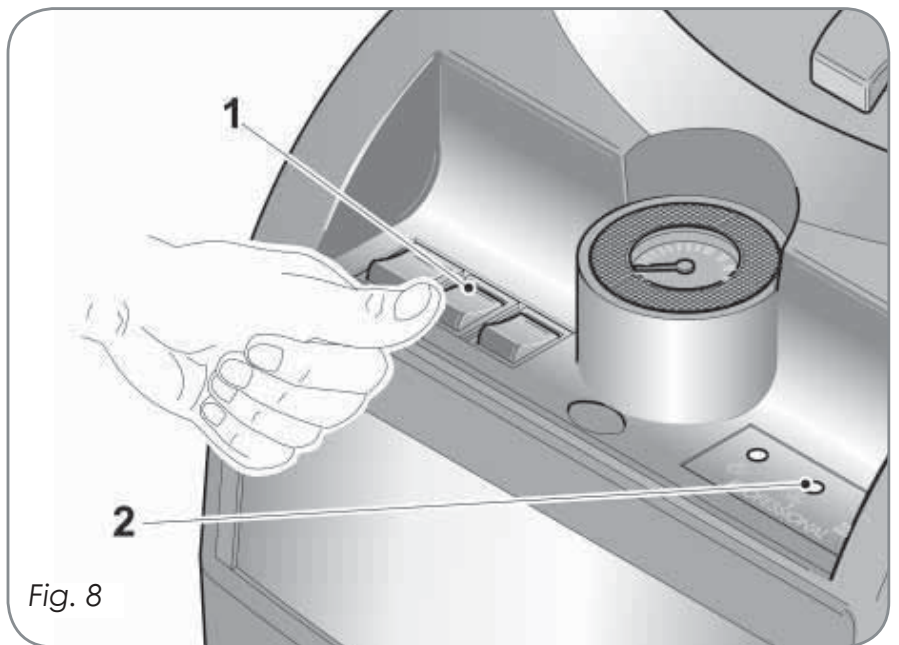

Fig. 8
Switch on the boiler switch (pos.1 fig. 8); the pressure indicator green light will flash for the time required to reach the maximum pressure level, after which it will stabilize and remain on.